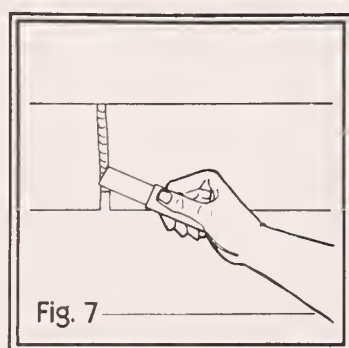

Fig. 7
4. For large openings or cracks, such as gaps between lengths of siding, use "bulk" caulking and apply with a putty knife or small trowel (fig. 7). Clean away excess as you work.